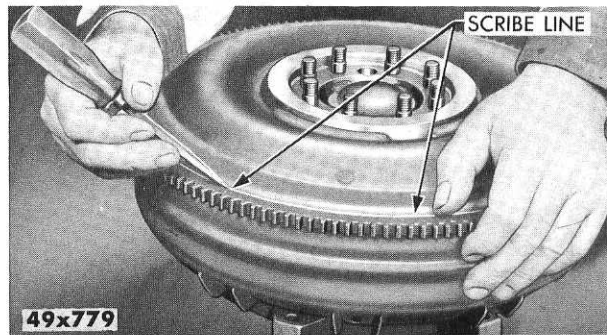

Fig. 22—Scribing Housing for Ring Gear Location
- (3) Scribe a line around the housing (Fig. 22). This is for reassembly purposes. The mark-